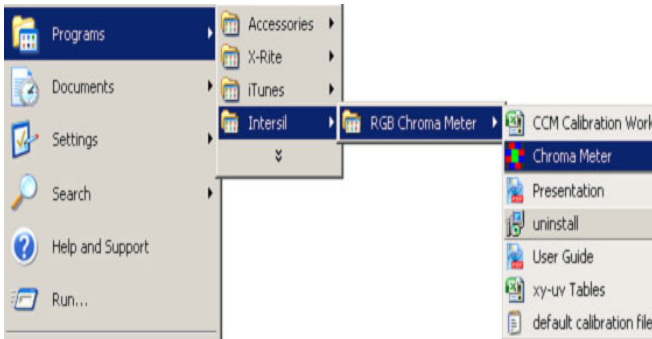

FIGURE 8. INSTALLATION READY TO INSTALL SCREEN
- B) **Launching the RGB GUI** - Once the installation is complete, click "Finish" to launch the RGB GUI. If you wish to launch from your PC desktop, use the path shown in Figure 8. (Start → Program → Intersil → RGB Chroma Meter → Chroma Meter.